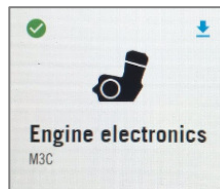

Fig. 2
- Log into the XC\_2 diagnostic tool, select Control Unit Diagnostics, after a few seconds the ECU icon will appear and should have a blue arrow in the corner of the icon to signify that the Automatic Flash update is available (Fig.2), click the icon. If the arrow is missing, contact the Dealer Services Department.